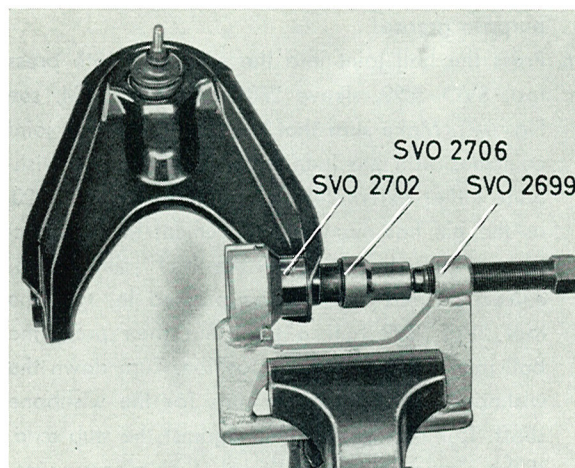

Fig. 6-27. Fitting the first rubber bush, upper wishbone
3. Hold press tool SVO 2699 firmly in a vise. Press in one of the bushes with tool SVO 2702 and tool SVO 2706, see Fig. 6-27.